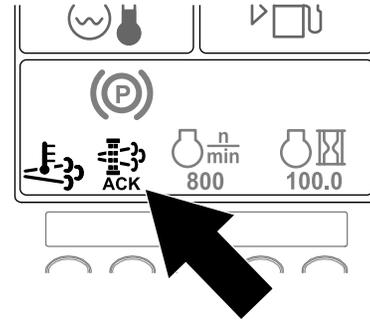

Figure 30
10. The InfoCenter displays the home screen and the regeneration acknowledge icon (Figure 30) appears in the lower right corner of the screen as the regeneration processes.